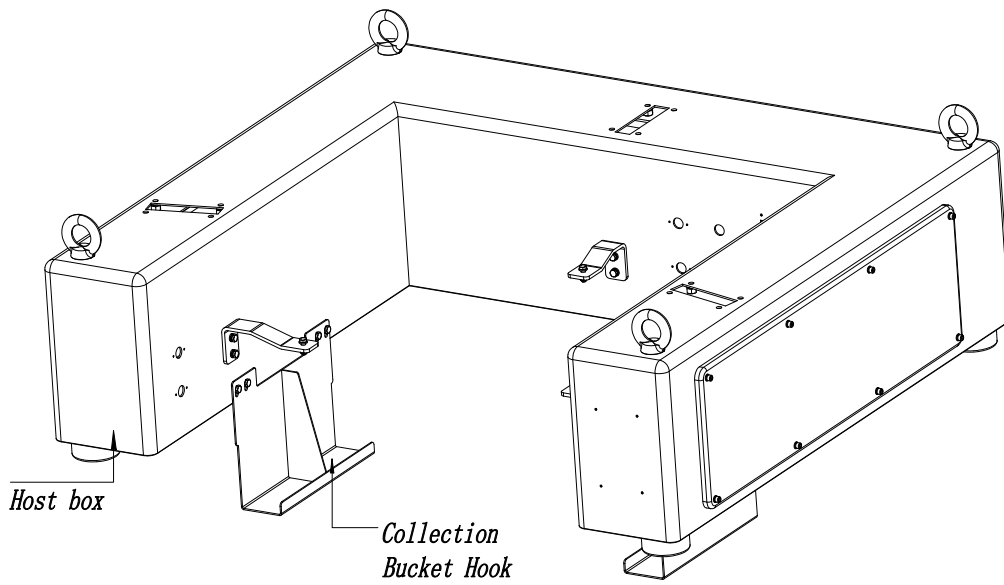

Fig 3-3-5
1. As shown in Fig 3-3-5, install the collection bucket Hook on the host box, and make it stable.